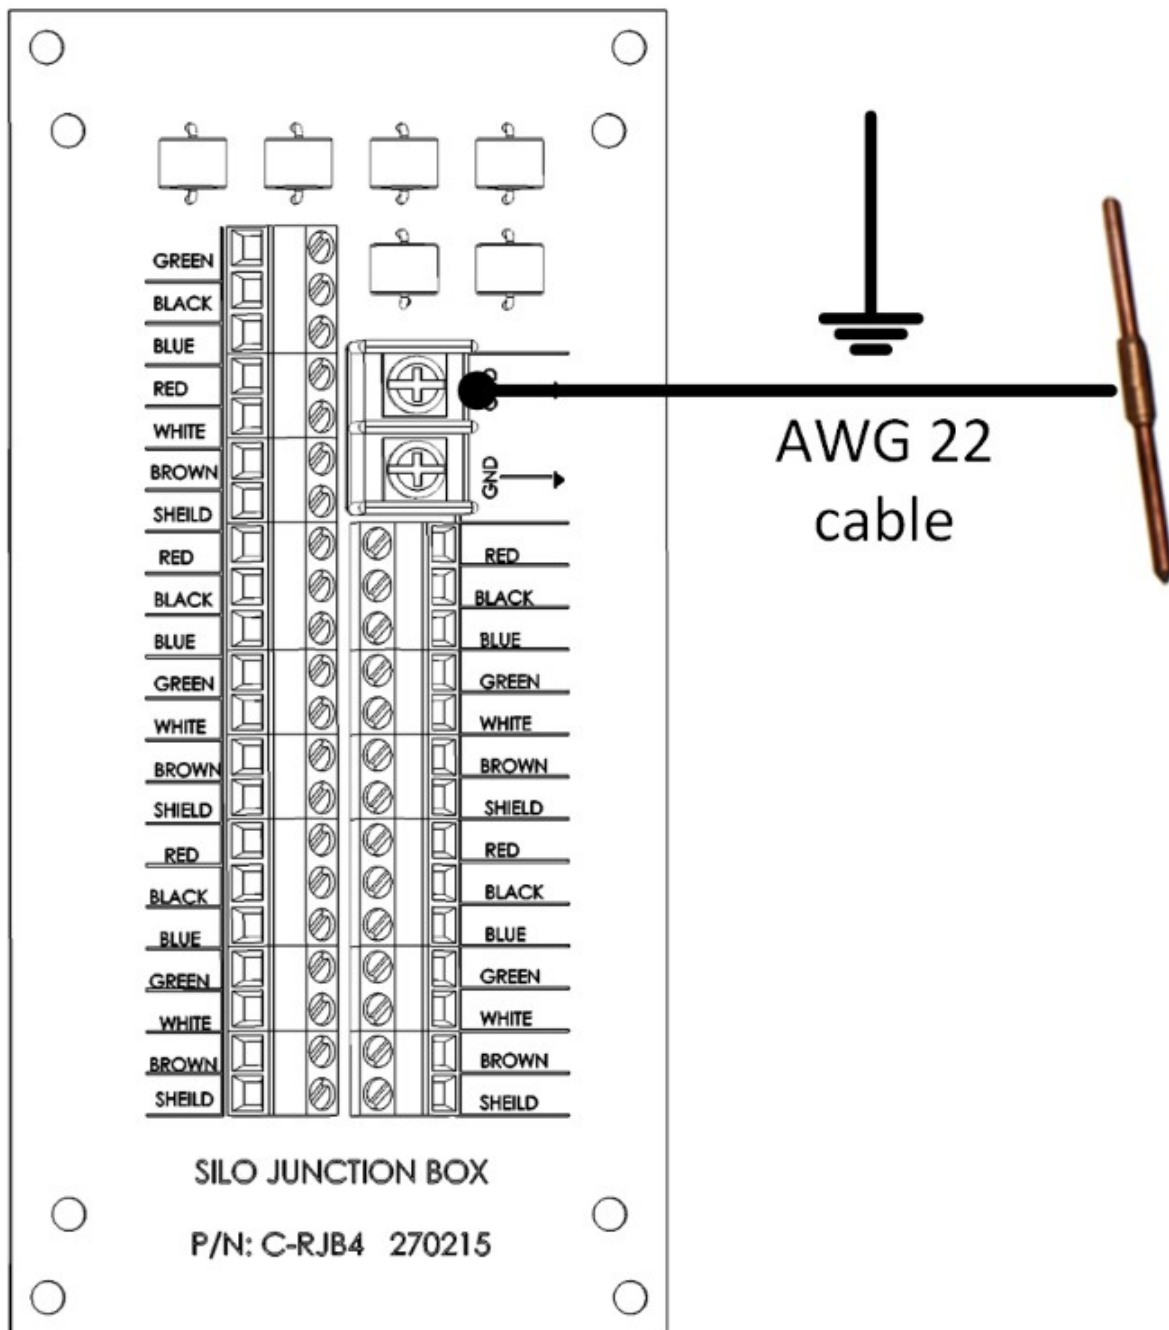

Figure 5: RJB-4 Connected to Grounding Rod
- AWG 14 (thick) cable used to ground the silo (Figure 5)